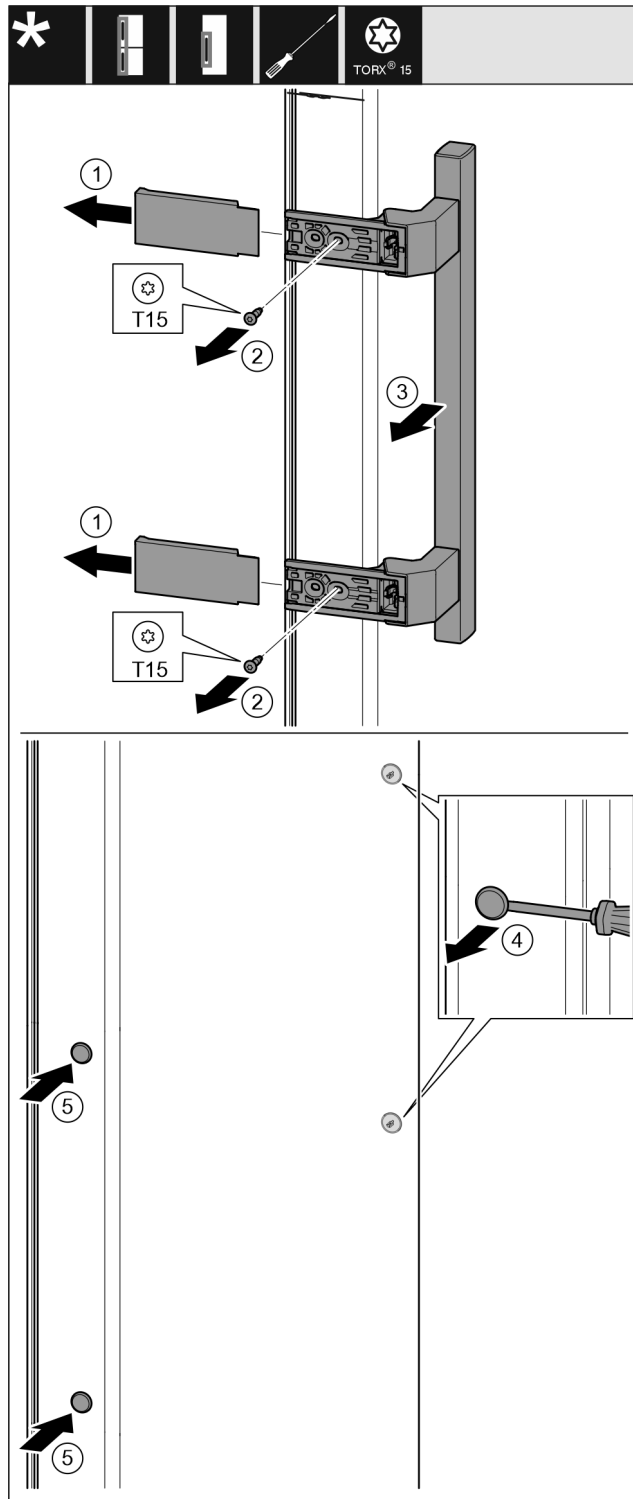

Fig. 37
- Pull off the cover. Fig. 37 (1)
- Remove the screws with the T15 screwdriver. Fig. 37 (2)
- Remove the handle. Fig. 37 (3)
- Carefully lift up the side plugs with a slotted screwdriver and pull them out. Fig. 37 (4)
- Insert the plugs again on the other side. Fig. 37 (5)